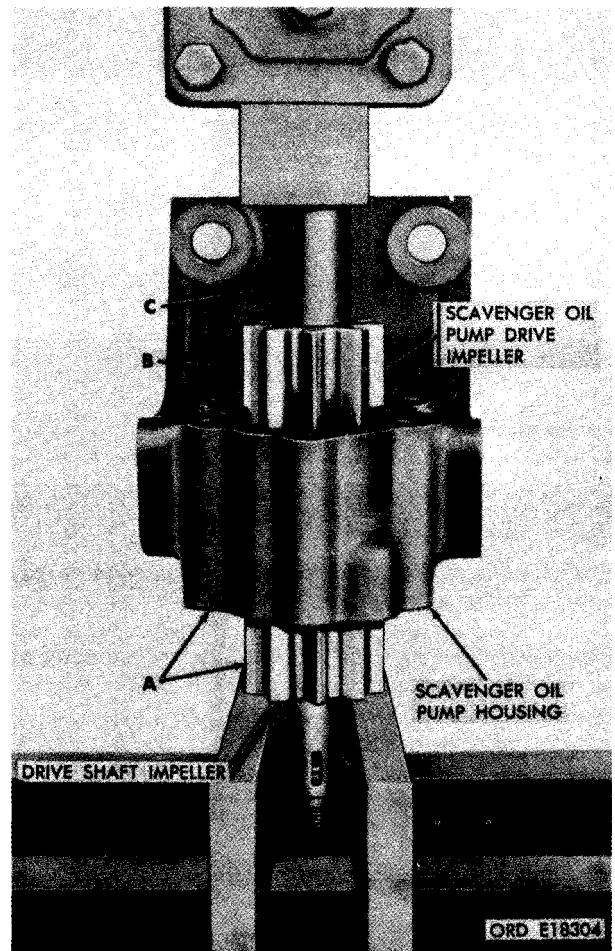

FIGURE 376. INSTALLING SCAVENGER OIL PUMP DRIVE IMPELLER ON DRIVE SHAFT IMPELLER.
Assemble drive shaft impeller, scavenger oil pump housing, and drive impeller. Figure 376. (A) Lubricate bearing surface of drive shaft impeller with engine oil (OE-10). Slide shaft through bushing-type bearing, with the Woodruff keys clear of bearing surface and keys not displaced. (B) Position scavenger oil pump drive impeller to align the keyway in impeller with Woodruff keys in drive shaft impeller. (C) Using a suitable pressing arbor, press drive impeller on drive shaft impeller until it bottoms against bearing surface on shaft.